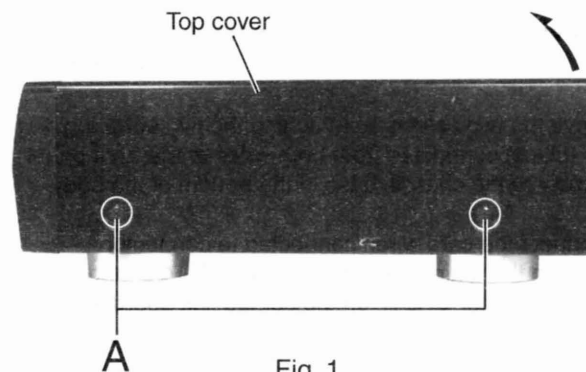

Fig. 1
■ Removing the Top Cover (see Fig.1 to 3)
■ Removing the MD Mechanism assembly (see Fig.1)